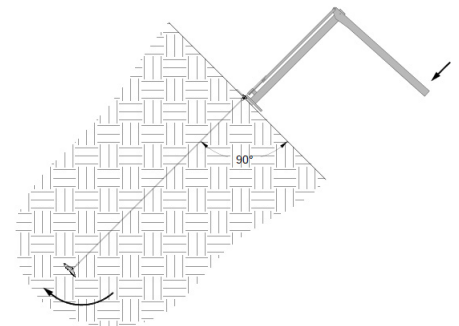

Figure 20: Use JackJaw Setting Tool to Set Anchor
6. Once the plate is close to the slope surface, place the JackJaw Setting Tool on the anchor plate and place the top of the anchor tendon into the grips, keeping the anchor tendon perpendicular to the slope surface (Figure 20). With gentle force, slowly start to press down on the JackJaw lever – towards the slope surface - causing the anchor tendon to start to move out of the ground (displace). During this step, the anchor head will turn in the ground – a process known as “anchor setting”. The change in embedment depth of our Anchors can vary depending on the soil conditions and anchor type. When the anchor is set, there will be a noticeable change in the amount of force needed to displace the anchor any further. This is a good indication that the anchor head is now perpendicular to the anchor tendon and the anchor is ready to be load-locked.